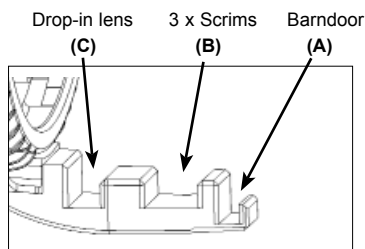
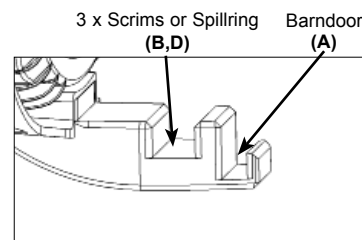

Abb. 4 / figure 4
Abb. 5 / figure 5
**AS 40 (Abb. 4):**
- Hinterer Einschub: Drop-In Linse (C)
- Mittlerer Einschub: 3x Scrim (B)
- Vorderer Einschub: Flügelort (A)**M 40 (Abb. 5):**
- Vorderer Einschub: Flügelort (A)
**AS 40 (figure 4):**
- back insertion: Drop-in lens (C)
- middle insertion: 3x scrim (B)
- front insertion: barndoor (A)**M 40 (figure 5):**
- front insertion: barndoor (A)